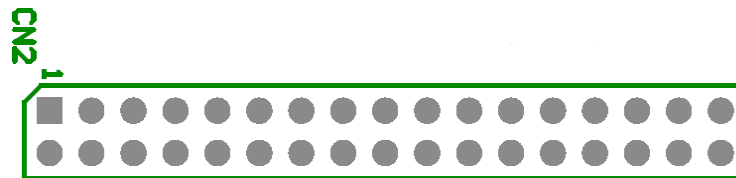

Figure 2. Extension Connector CN2
- Figure 2. Extension Connector CN2 6